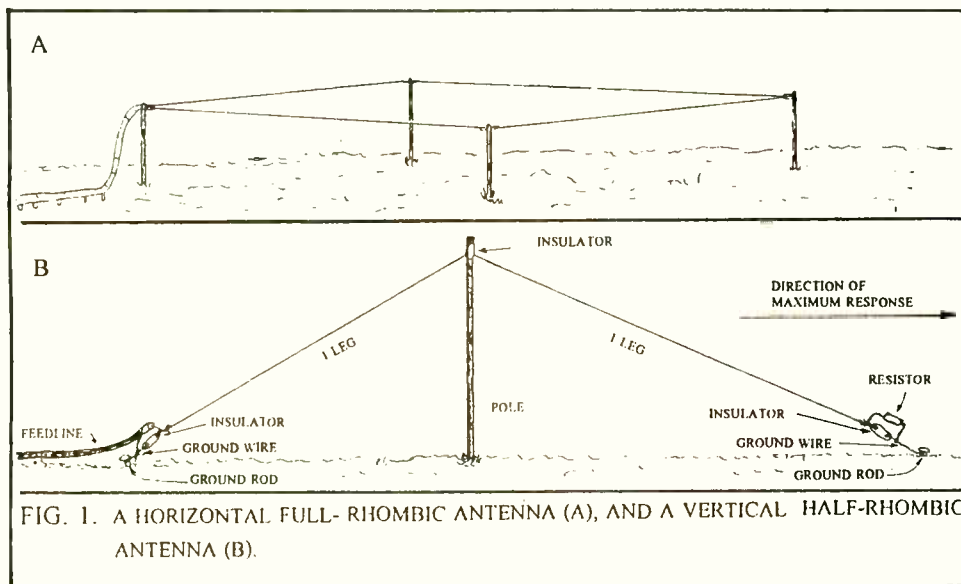

FIG. 1. A HORIZONTAL FULL-RHOMBIC ANTENNA (A), AND A VERTICAL HALF-RHOMBIC ANTENNA (B).
7. Attach the center conductor of a length of 50-ohm coax to the antenna wire and the coax shield to the counterpoise or ground as shown in fig. 1.